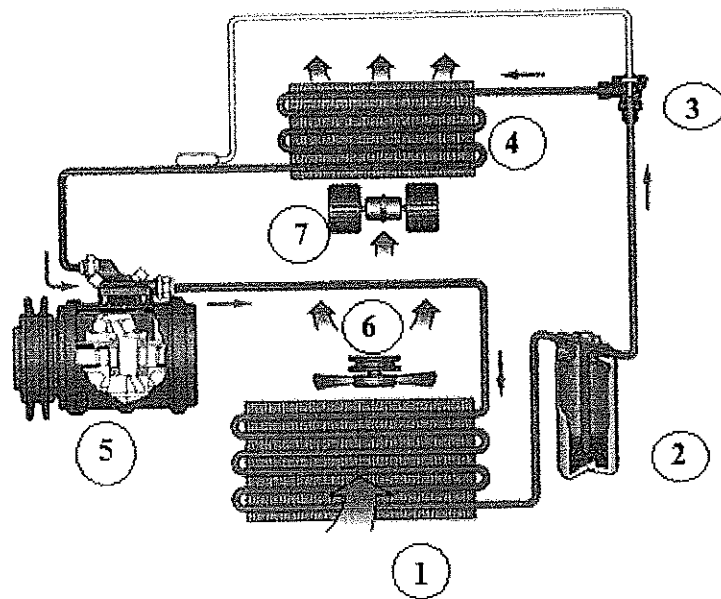

Figure Q2 – Diagram of a typical Automotive air-conditioning system
- A typical automotive air-conditioning system is shown in figure Q2. Name the components from 1 to 7 and identify their location (within, or outside the passenger cabin).
- Explain the operating principle of the automotive air-conditioning system shown in Figure Q2.